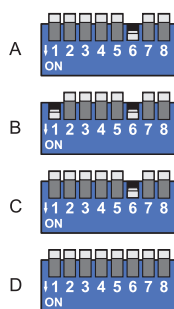

Fig. 5.1.3
2. Place dip-switch 6 and then dip-switch 1 in their **ON** positions, as shown in Fig. 5.1.3.